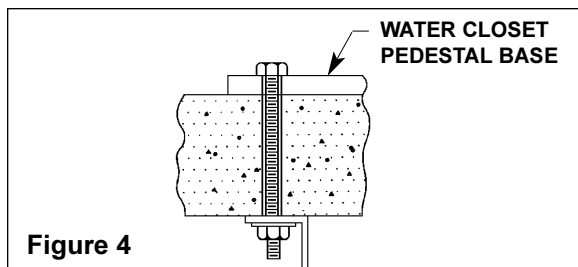

Figure 4
*NOTE: If the floor concrete is lightweight or less than 4" thick, Bradley recommends through-bolting to steel angles under the floor (hardware supplied by installer) (see Figure 4).*